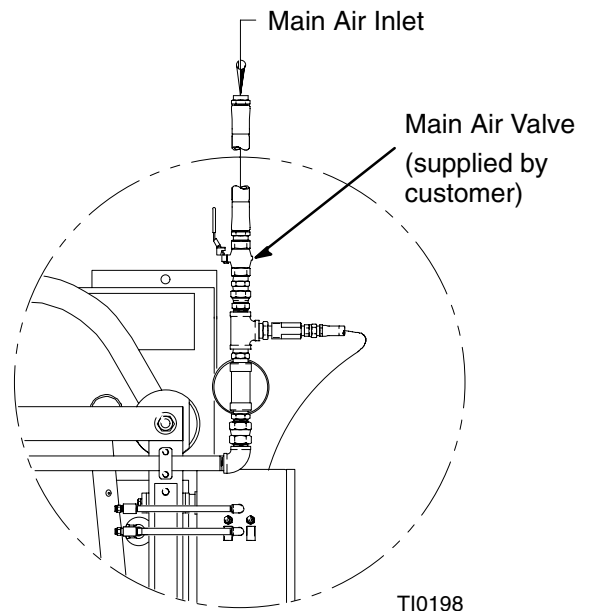

Fig. 8
1. To stop the system, close the main air inlet supply (see Fig. 8) to the supply unit.
- a. Open the main air valve to the supply unit (see Fig. 8).
1. Close the main air inlet valve (see Fig. 8).